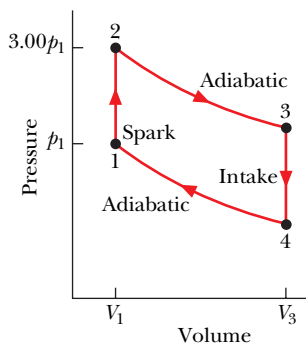

Fig. 20-31 Problem 35.
**•••35** The cycle in Fig. 20-31 represents the operation of a gaso-